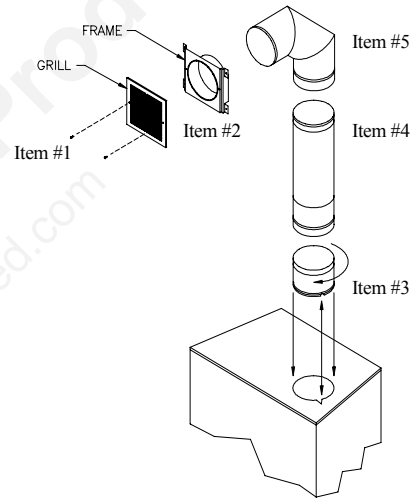

FIGURE 17: HOT AIR DUCT KIT
Only the IN-7000GDK hot air duct kit is authorized for use with the Inglenook Fireplace: *Double hot air outlet kit*. (See Figure 17)
- 2 grill covers, Figure 17, item #1
- 2 grill boxes, Figure 17, item #2
- 2 starter adapters, Figure 17, item #3
- 8 Inch inside diameter pipe, Figure 17, item #4
- 90-degree elbows, Figure 17, item #5